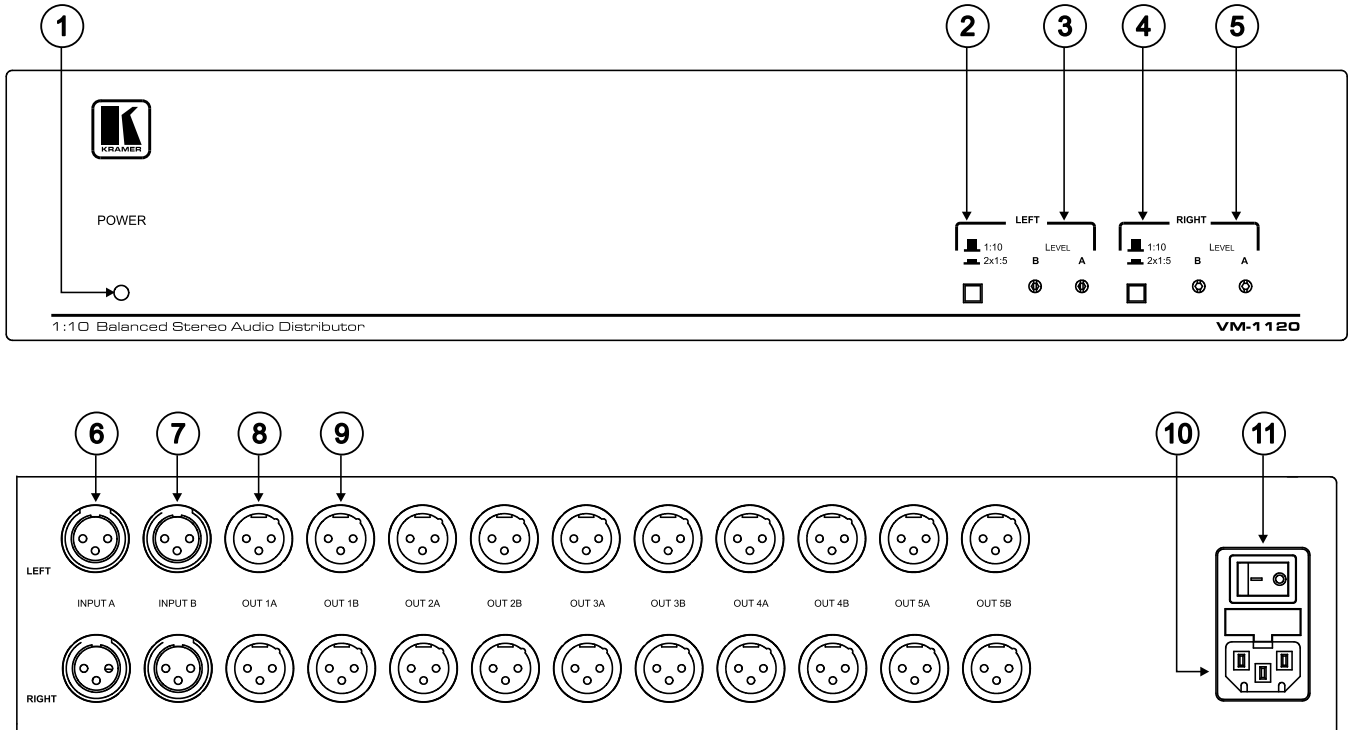

Figure 1: VM-1120 1:10 Balanced Stereo Audio Distributor
*Figure 1* illustrates the front and rear panels of the **VM-1120**. *Table 1* and *Table 2* define the front and rear panels of the **VM-1120**, respectively.